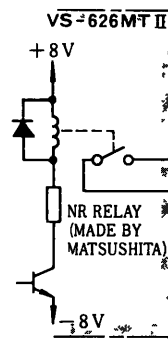

Fig. 2.6 Output Circuit
- Fig. 2.6 shows the output circuit, and Table 2.13 gives functions of the output signals.